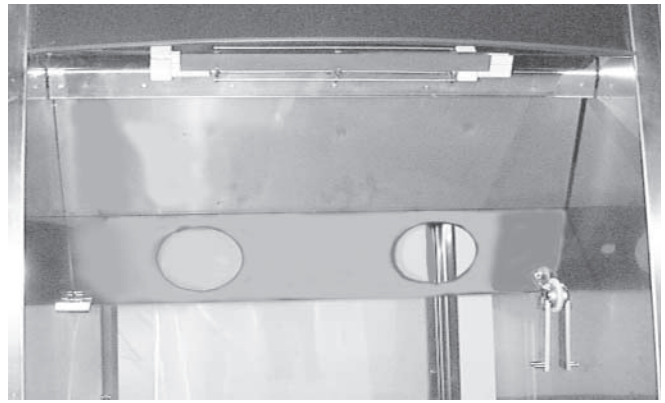

Fig. 71
12. Swing element cover back and raise up to clear rotor support and rotor arm (Fig. 71). Continue swinging element cover back until mounting studs protrude through three holes in element cover.